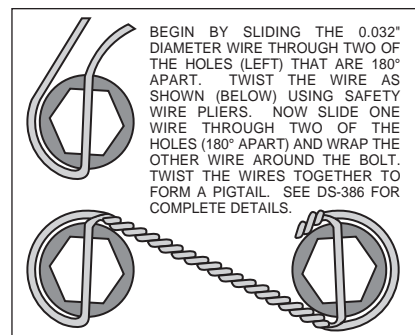

Figure 7. Safety Wire Diagram
- With the larger I.D. side of the rotor (4) facing away from the hat (3), bolt rotor (4) to hat (3) through the backside of the rotor using washers (5) and bolts (6). Using an alternating sequence, apply red *Loctite*® 271 to the threads and torque bolts to 155 in-lb. For an added measure of security, the bolts may be safety wired using standard 0.032 inch diameter stainless steel safety wire as shown in Figure 7.